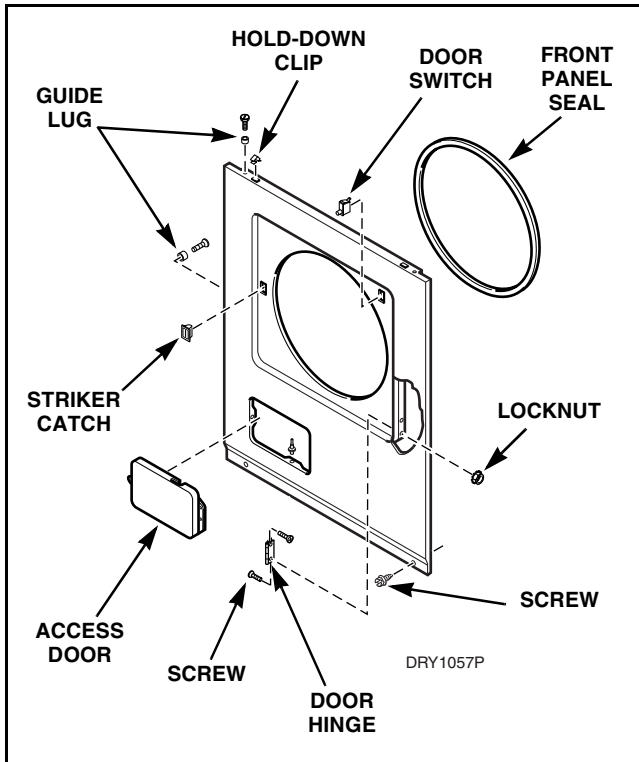

Figure 13
- Remove two screws from bottom edge of front panel. Refer to *Figure 13*.
- Swing bottom of panel away from dryer to disengage hold-down clips and guide lugs from cabinet top. Refer to *Figure 13*.
- Remove two screws from bottom edge of the front panel. Refer to Figure 13.
- Swing bottom of panel away from dryer to disengage hold-down clips and guide lugs from cabinet top. Refer to Figure 13.
- i. Remove two screws from bottom edge of the front panel. Refer to *Figure 13*.
- j. Swing bottom of panel away from dryer to disengage hold-down clips and guide lugs from cabinet top. Refer to *Figure 13*.
- j. Remove two screws from bottom edge of front panel. Refer to *Figure 13*.
- k. Swing bottom of panel away from dryer to disengage hold-down clips and guide lugs from cabinet top. Refer to *Figure 13*.